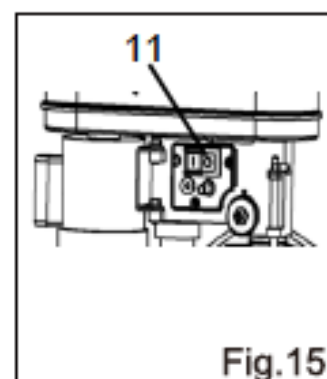

Fig.15
This machine is fitted with a "No Volts Switch". In the event of a mains power failure or if the mains plug is removed from the mains supply socket before the machine is switched off, the machine will not restart without warning when the mains supply is restored or the mains plug is re-connected to the mains supply, until the machine is switched ON at the ON/OFF switch(11) fitted to the machine. To start the machine press the green ON button. To stop the machine, press the red OFF button(Fig.15).